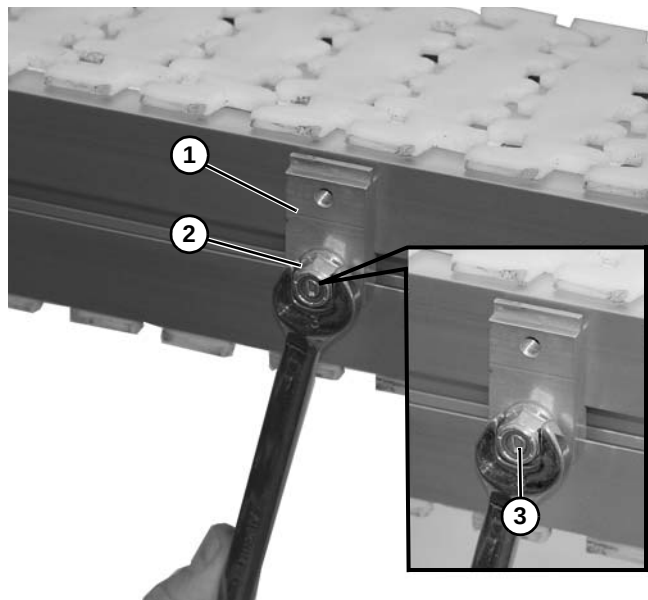

Figure 35
3. Fasten retaining clip (**Figure 35, item 1**) to conveyor with nut (**Figure 35, item 2**) on stud.
*Be certain that slot (**Figure 35, item 3**) is close to vertical when finished tightening nut.*
4. Tighten nuts (**Figure 35, item 2**).